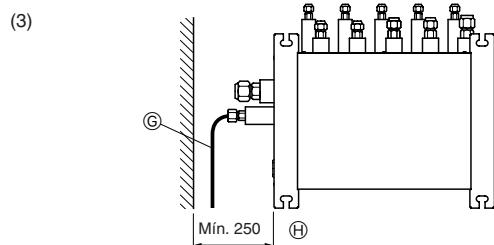

Fig. 4-7
#### (3) Vista Superior (Fig. 4-7)